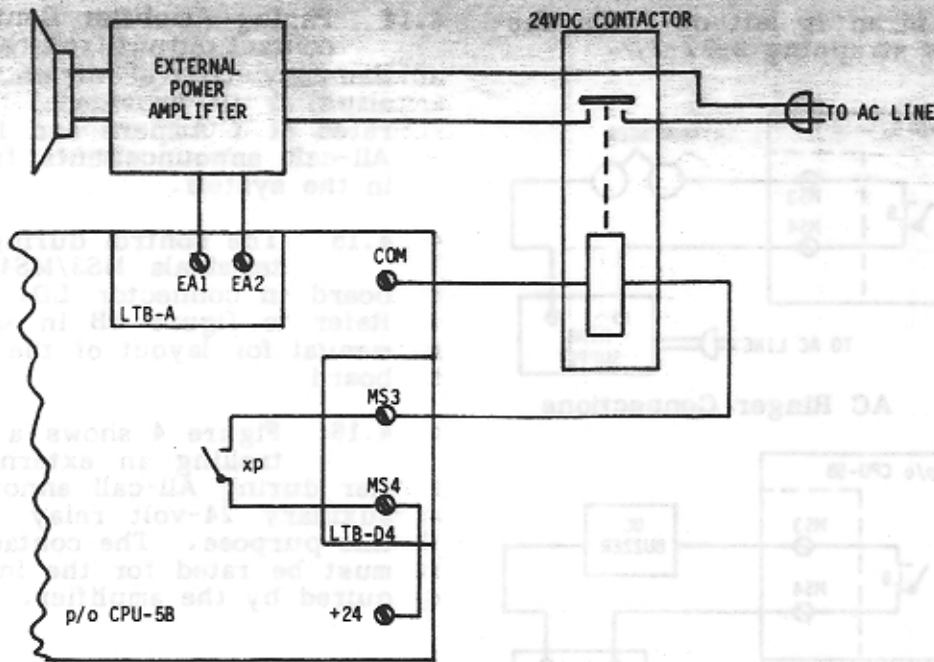

Figure 4 - Connections for External Amplifier Control During All-Call
4.16 Figure 4 shows a method of controlling an external power amplifier during All-call announcements. An auxiliary 24-volt relay is required for this purpose. The contacts on the relay must be rated for the input current required by the amplifier.